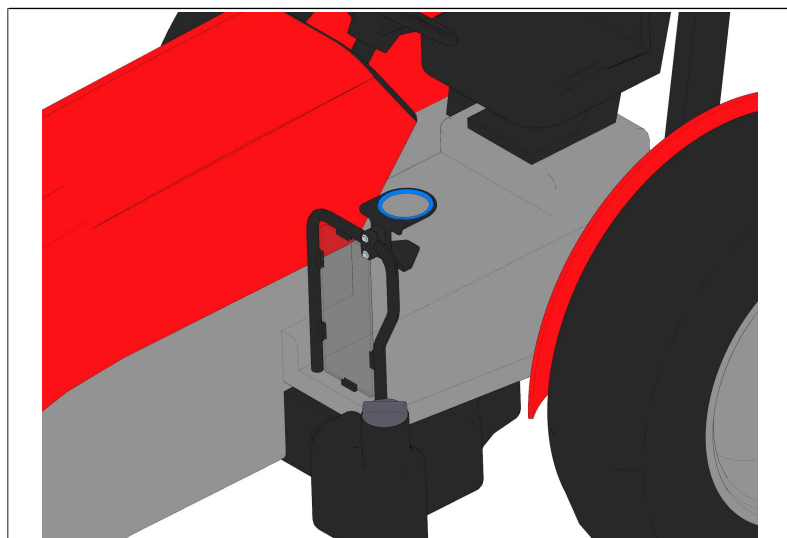

Fig. 2
2. For use with larger beverages, install the supplied edge liner on the inside of the cup holder as shown in figure 2.